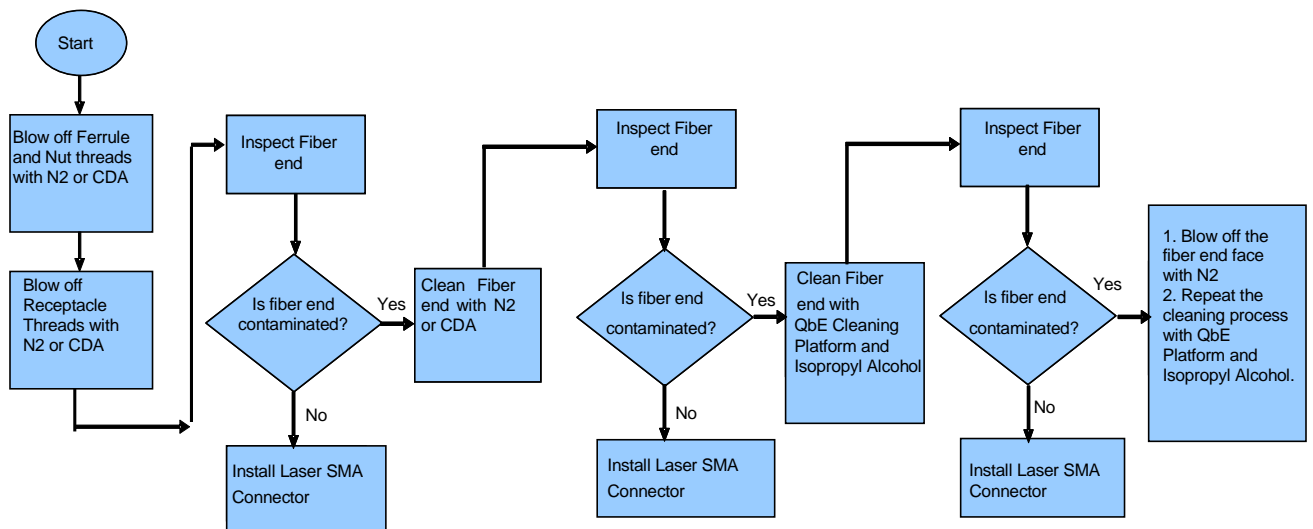

Figure 9: Fiber Cleaning Process Flowchart
- Follow the fiber inspection and cleaning process (Figure 9) before making a laser fiber SMA connection. As shown in the figure, inspecting and cleaning is an iterative process. The final step of the cleaning should always be a successful inspection. Sometimes the cleaning action redistributes particles from an area that is not visible with the inspection scope (and not problematic) to area that is visible (and is problematic). Because of this, we recommend that the first step is to remove any loose particles or debris with pressurized N2.